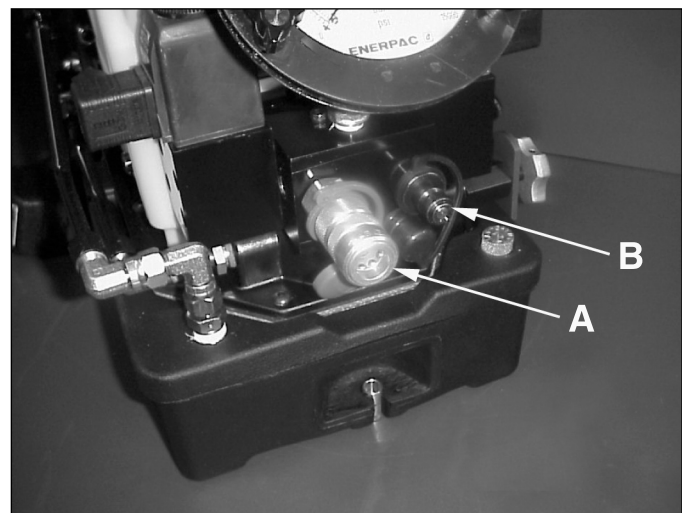

Figure 3 - Pump Outlet (Double-Acting)
1. Couple hoses to pump outlet manifold shown in Figure 3. BE SURE to use hose marked "ENERPAC 800 SERIES - 800 BAR/11,600 PSI MAX". Hand tighten coupler lock rings.